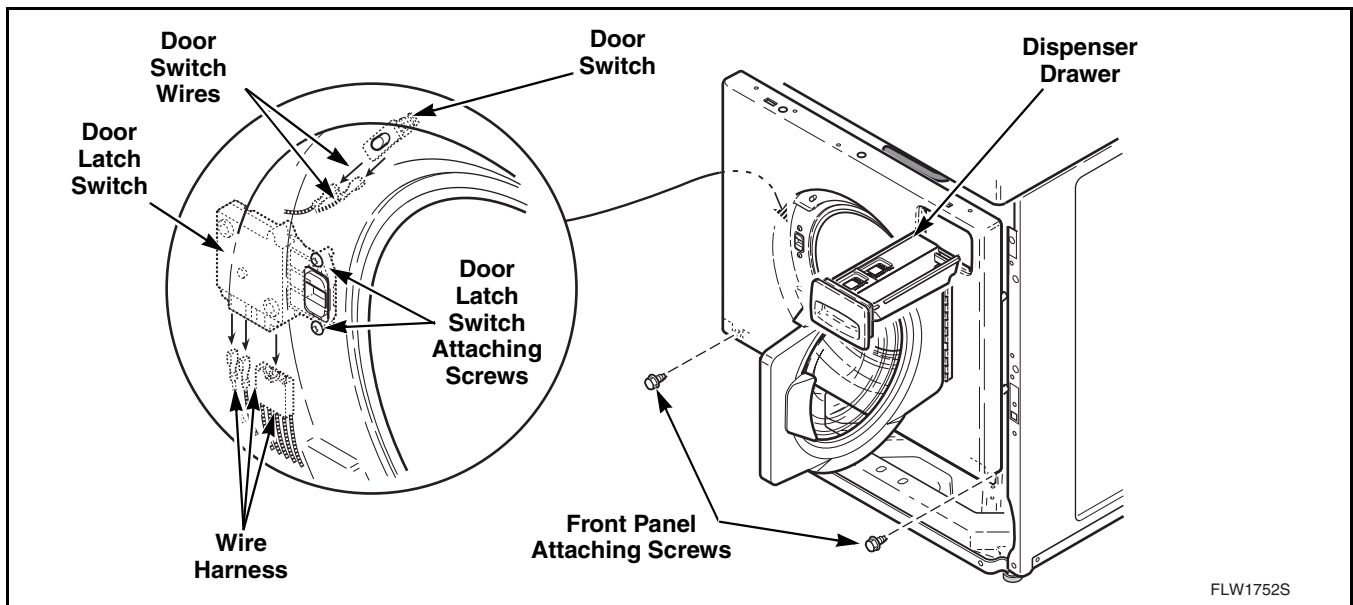

Figure 13
- g. Remove bottom two front panel attaching screws. Refer to *Figure 13*.
- i. Unplug wire harness from both the door latch switch and from the door switch. Refer to *Figure 13*. Remove clips holding wire harness and door seal hose along top flange of front panel and remove front panel.
- (7) Remove bottom two front panel attaching screws. Refer to *Figure 13*.
- (8) Remove front panel (with loading door attached) away from washer as far as wires permit.
- (9) Unplug wire harness from both the door latch switch and from the door switch. Refer to *Figure 13*. Remove clips holding wire harness and door seal hose along top flange of front panel and remove front panel.
- (6) While supporting the front panel assembly, remove the two bottom front corner screws. Refer to *Figure 13*. Remove front panel (with loading door attached) away from washer as far as wire permits.
- (7) Unplug wire harness from both the door latch switch and from the door switch. Refer to *Figure 13*. Remove clips holding wire harness and door seal hose along top flange of front panel and remove front panel.